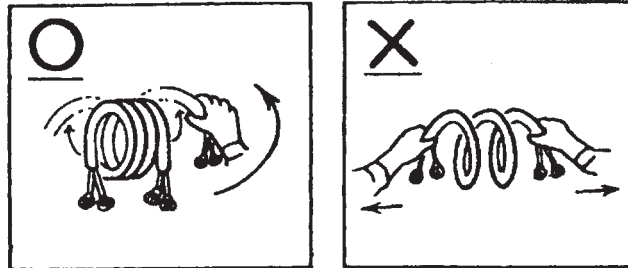

Fig. 21
- (1) The connecting pipe is coiled into its package and must be loosen and straighten before installation.
- (2) When doing this, let it go loose coil by coil naturally and do not pull it by force, or the pipe may be twisted (see Fig. 21)